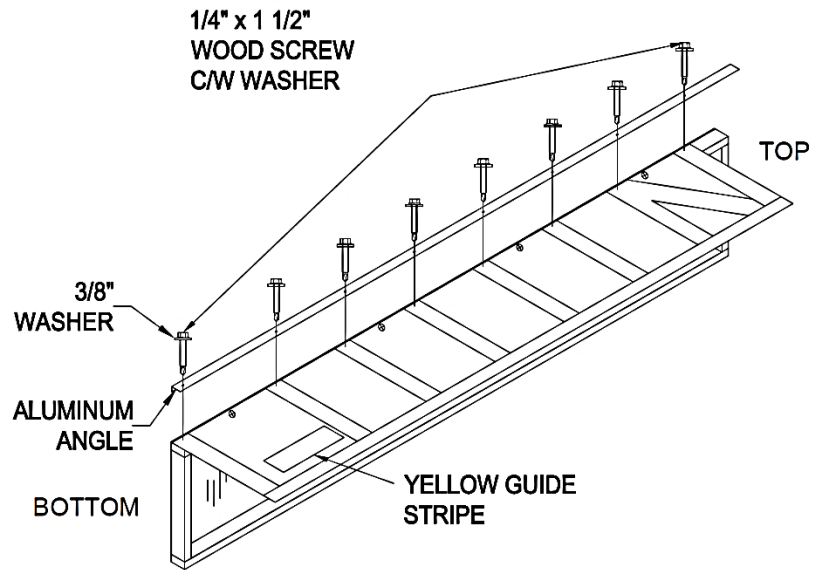

FIG. O2
- a. **Match holes** in Aluminum Angle with holes in Vertical Panel stays (Figure O2).